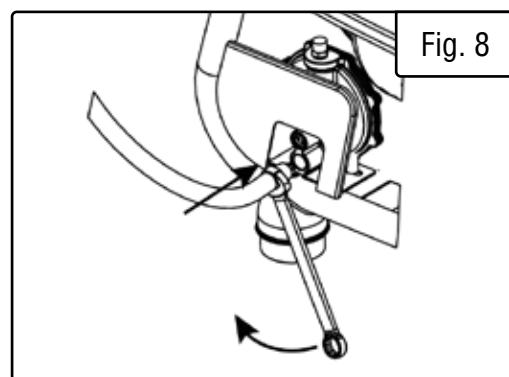

Fig. 8
3. Connect the other end of the hose to the generator's onboard regulator with a 3/4 in. (19mm) wrench (not supplied) (Fig. 8).